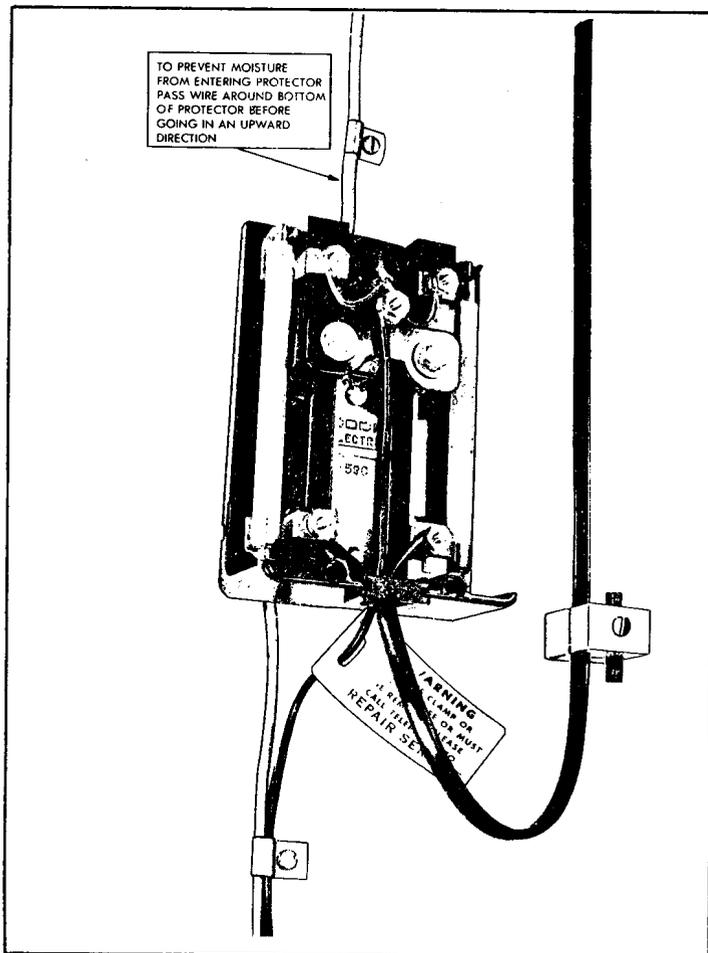

FIGURE 10. 590 Type Fused Protector with Two Inside Wires
d. Figure 10 shows a typical installation of a single fused protector.